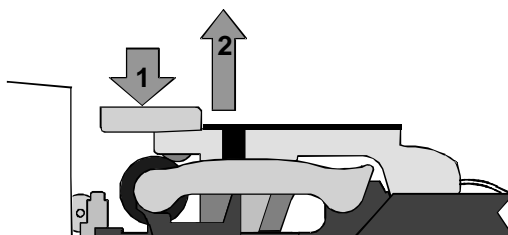

Figure 4-1: Open the swing arm
- 2 Press down on the swing arm (step 1 in Figure 4-1). The push latch releases the swing arm. Lift the swing arm until it is fully open (step 2 in Figure 4-1).